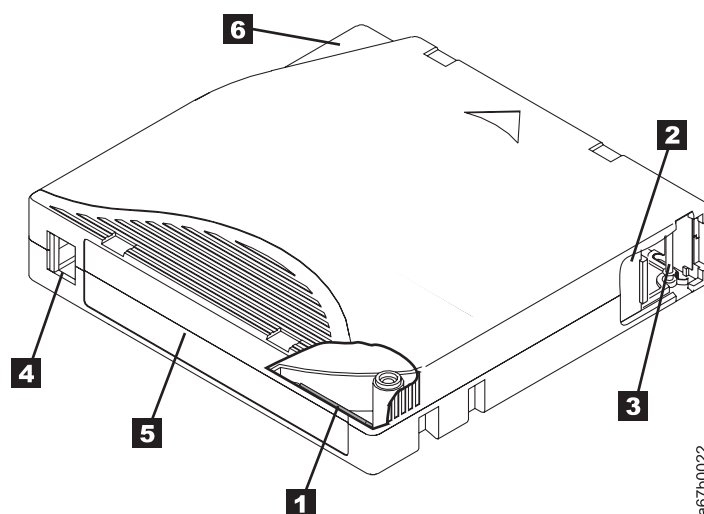

Figure 4-1. The IBM LTO Ultrium 800 GB Data Cartridge
Figure 4-1 shows the IBM LTO Ultrium 800 GB Data Cartridge and its components.
All generations of the IBM LTO Ultrium Data Cartridges include a Linear Tape-Open Cartridge Memory (LTO-CM) chip (**1** in Figure 4-1 on page 4-1), that contains information about the cartridge and the tape (such as the name of the manufacturer that created the tape), as well as statistical information about the cartridge’s use. The LTO-CM enhances the efficiency of the cartridge. For example, the LTO-CM stores the end-of-data location which, when the next time this cartridge is inserted and the Write command is issued, enables the drive to quickly locate the recording area and begin recording. The LTO-CM also aids in determining the reliability of the cartridge by storing data about its age, how many times it has been loaded, and how many errors it has accumulated. Whenever a tape cartridge is unloaded, the tape drive writes any pertinent information to the cartridge memory.
When attaching a bar code label to a tape cartridge, place the label only in the recessed label area (see **5** in Figure 4-1 on page 4-1). A label that extends outside of the recessed area can cause loading problems in the drive.
- Position the label within the recessed label area (see **5** in Figure 4-1 on page 4-1).